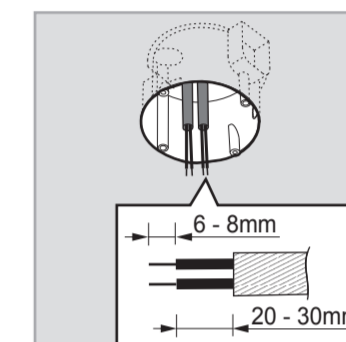

FIG.9
3.4.1.2 Pull out AC power cables from European standard junction box (See FIG.9), then strip off 6 - 8mm of cable sheathing for wiring.
3.4.1.4 Fix the detector head on power box by inserting its four non-dropping screws into the corresponding screw holes, then cover up the decorative frame (See FIG.9).